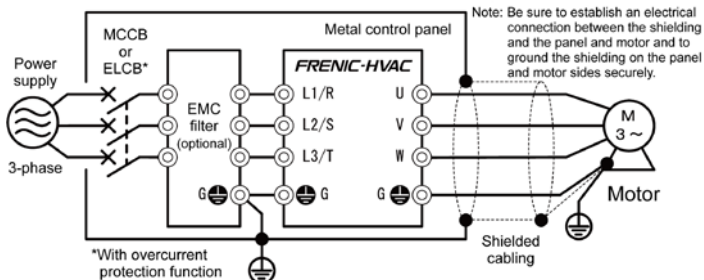

Figure 8.3 Installation inside a Panel
5) When using an externally connected EMC filter (optional), place the inverter and filter on a grounded metal plate such as the surface of a panel, as shown in Figure 8.3. If noise emissions exceed the standard, place the inverter and any peripheral equipment inside a metal panel. For more information about how to use the inverter in combination with a filter, see Table 8.4.
Note that connection to the industrial low-voltage power lines is an exception. (See Figure 8.3.)